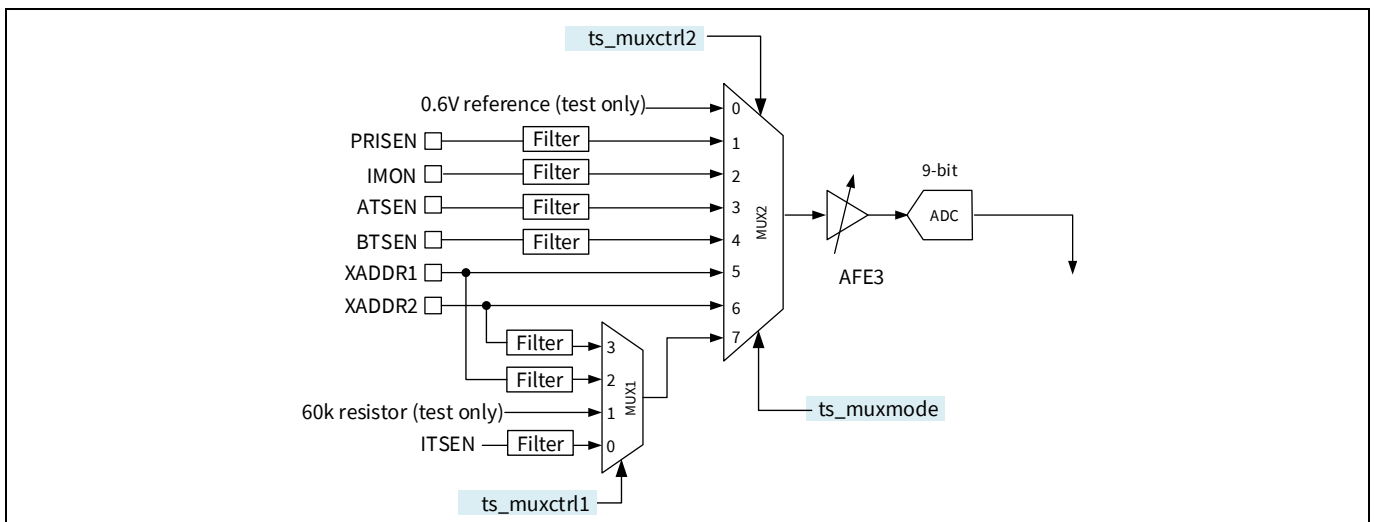

Figure 10 TS block (TS ADC)
The telemetry sense (TS) ADC is a general-purpose ADC (1 MHz, 9-bit, 0 to 1.2 V range). The general-purpose ADC consists of eight channels and can be configured to digitize voltages, currents, impedance and temperature (Figure 10).